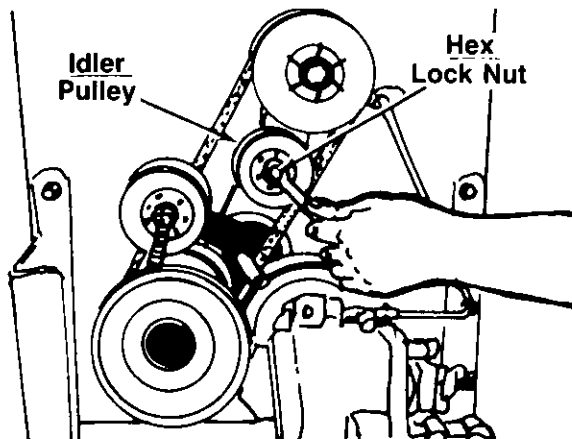

FIGURE 32.
- Remove the idler pulley by removing the hex lock nut. See figure 32.